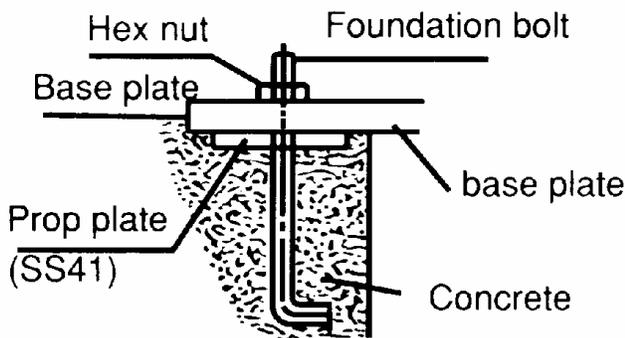

Fig. 4
- (b) A massive concrete foundation is preferred in order to minimize vibration. Rigidity and stability are enhanced by prop plate and foundation bolt. As shown in Fig. 4.